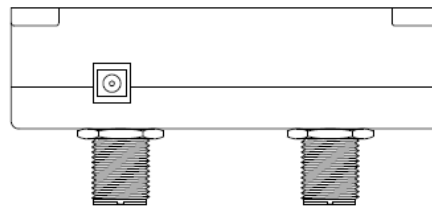

Figure 2 AMP-RF-1 Top View/DC Power Connection
1. Plug the amplifier's power supply into an AC outlet. Plug the other end of the power cable into the DC Power connection located at the top of the amplifier as indicated in Figures 2 and 3.